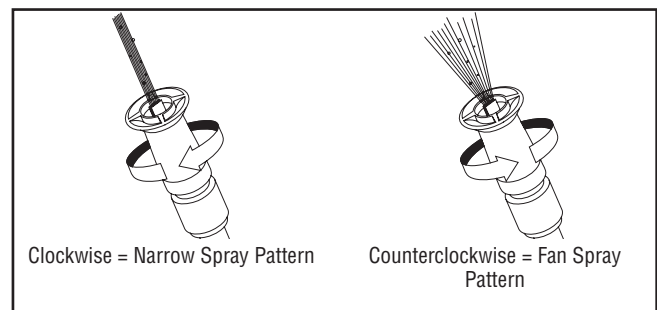

Figure 25— Adjusting the Nozzle for Spray Pattern
3. Twisting nozzle adjusts spray pattern from narrow pattern to fan pattern (see Figure 25).